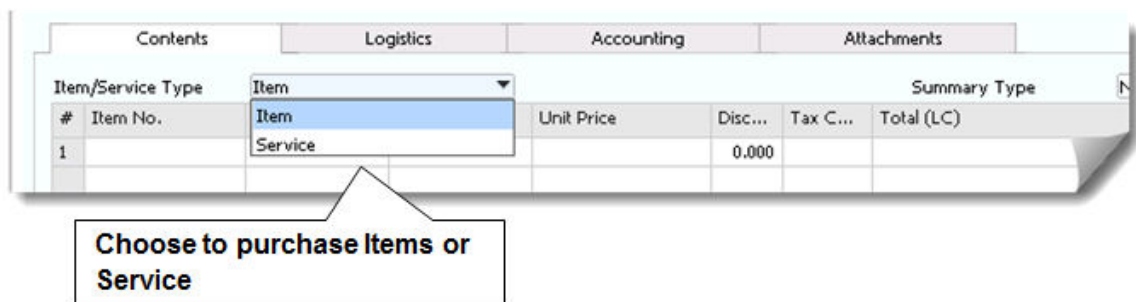

Figure 6-7: Purchasing an item and or a service
- *Contents tab*: In the *Item/Service Type* field, make sure the type you select corresponds to what you are ordering, as shown in Figure 6-7. Enter all items (or services—but note that you cannot mix the two items and services in a single purchasing document) you are ordering into the table. (See “Getting Started: Common Structure and Key Data” earlier in this chapter.)